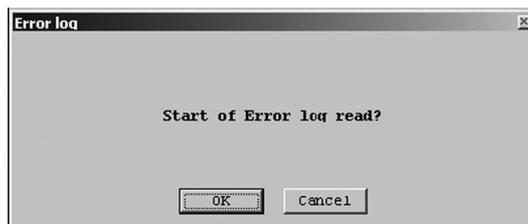

Fig.145
- ③ When the window is displayed, the 64 latest log entries will be shown. Input a value into "Input address" and click the "OK" button to display a message box (Fig. 145).